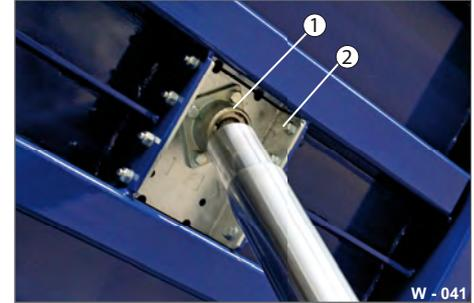

Fig. 41 Top bearing
- ▶ Clean the ball bearing (Fig. 41/1) with a clean cloth.